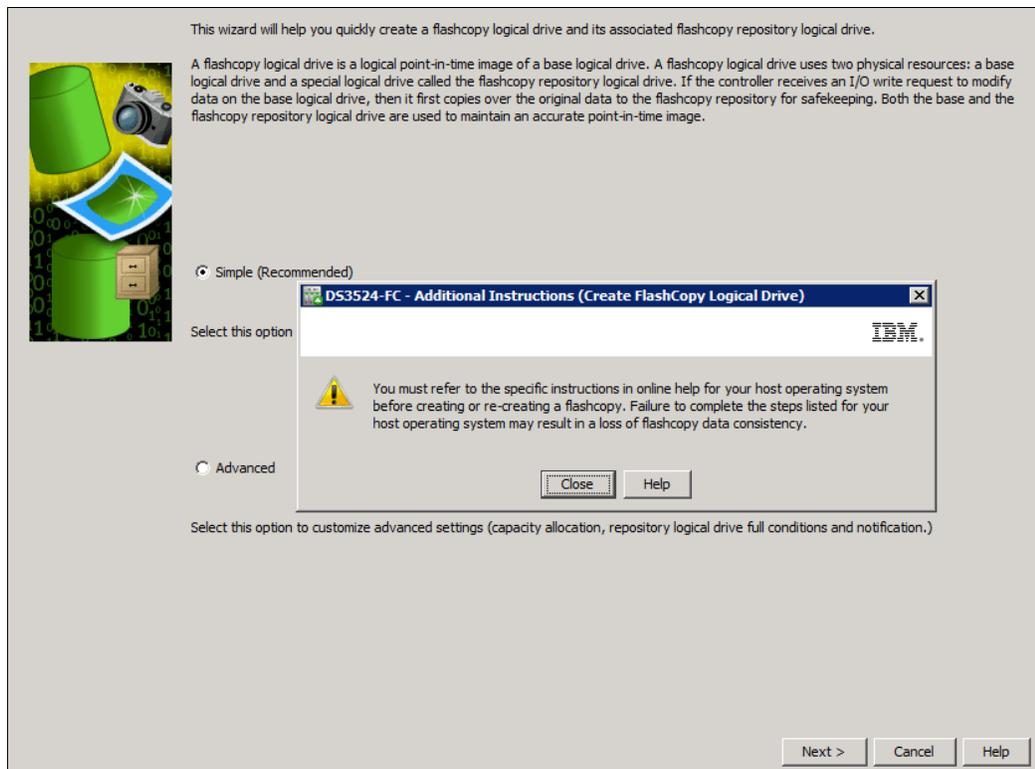

Figure 2-4 Create FlashCopy Logical Drive Wizard startup
The Create FlashCopy Logical Drive Wizard begins, as shown in Figure 2-4.
1. Review the information about the initial window, as shown in Figure 2-4 on page 21. Click **Close** to proceed to the wizard introduction window.